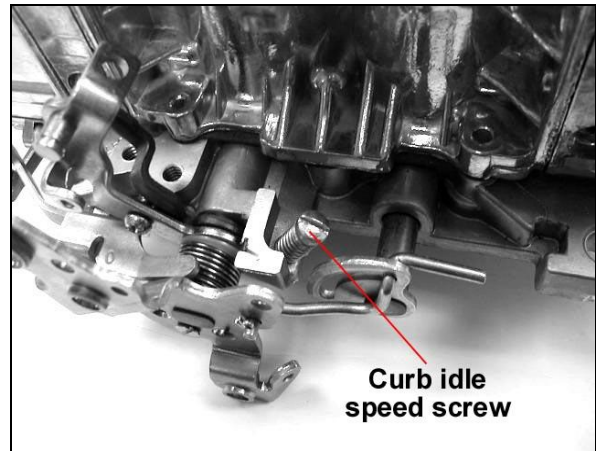

Figure 12
4. Now that the idle mixture is set, it may be necessary to go back and reset the idle speed using the curb idle speed screw, as shown in Figure 12.